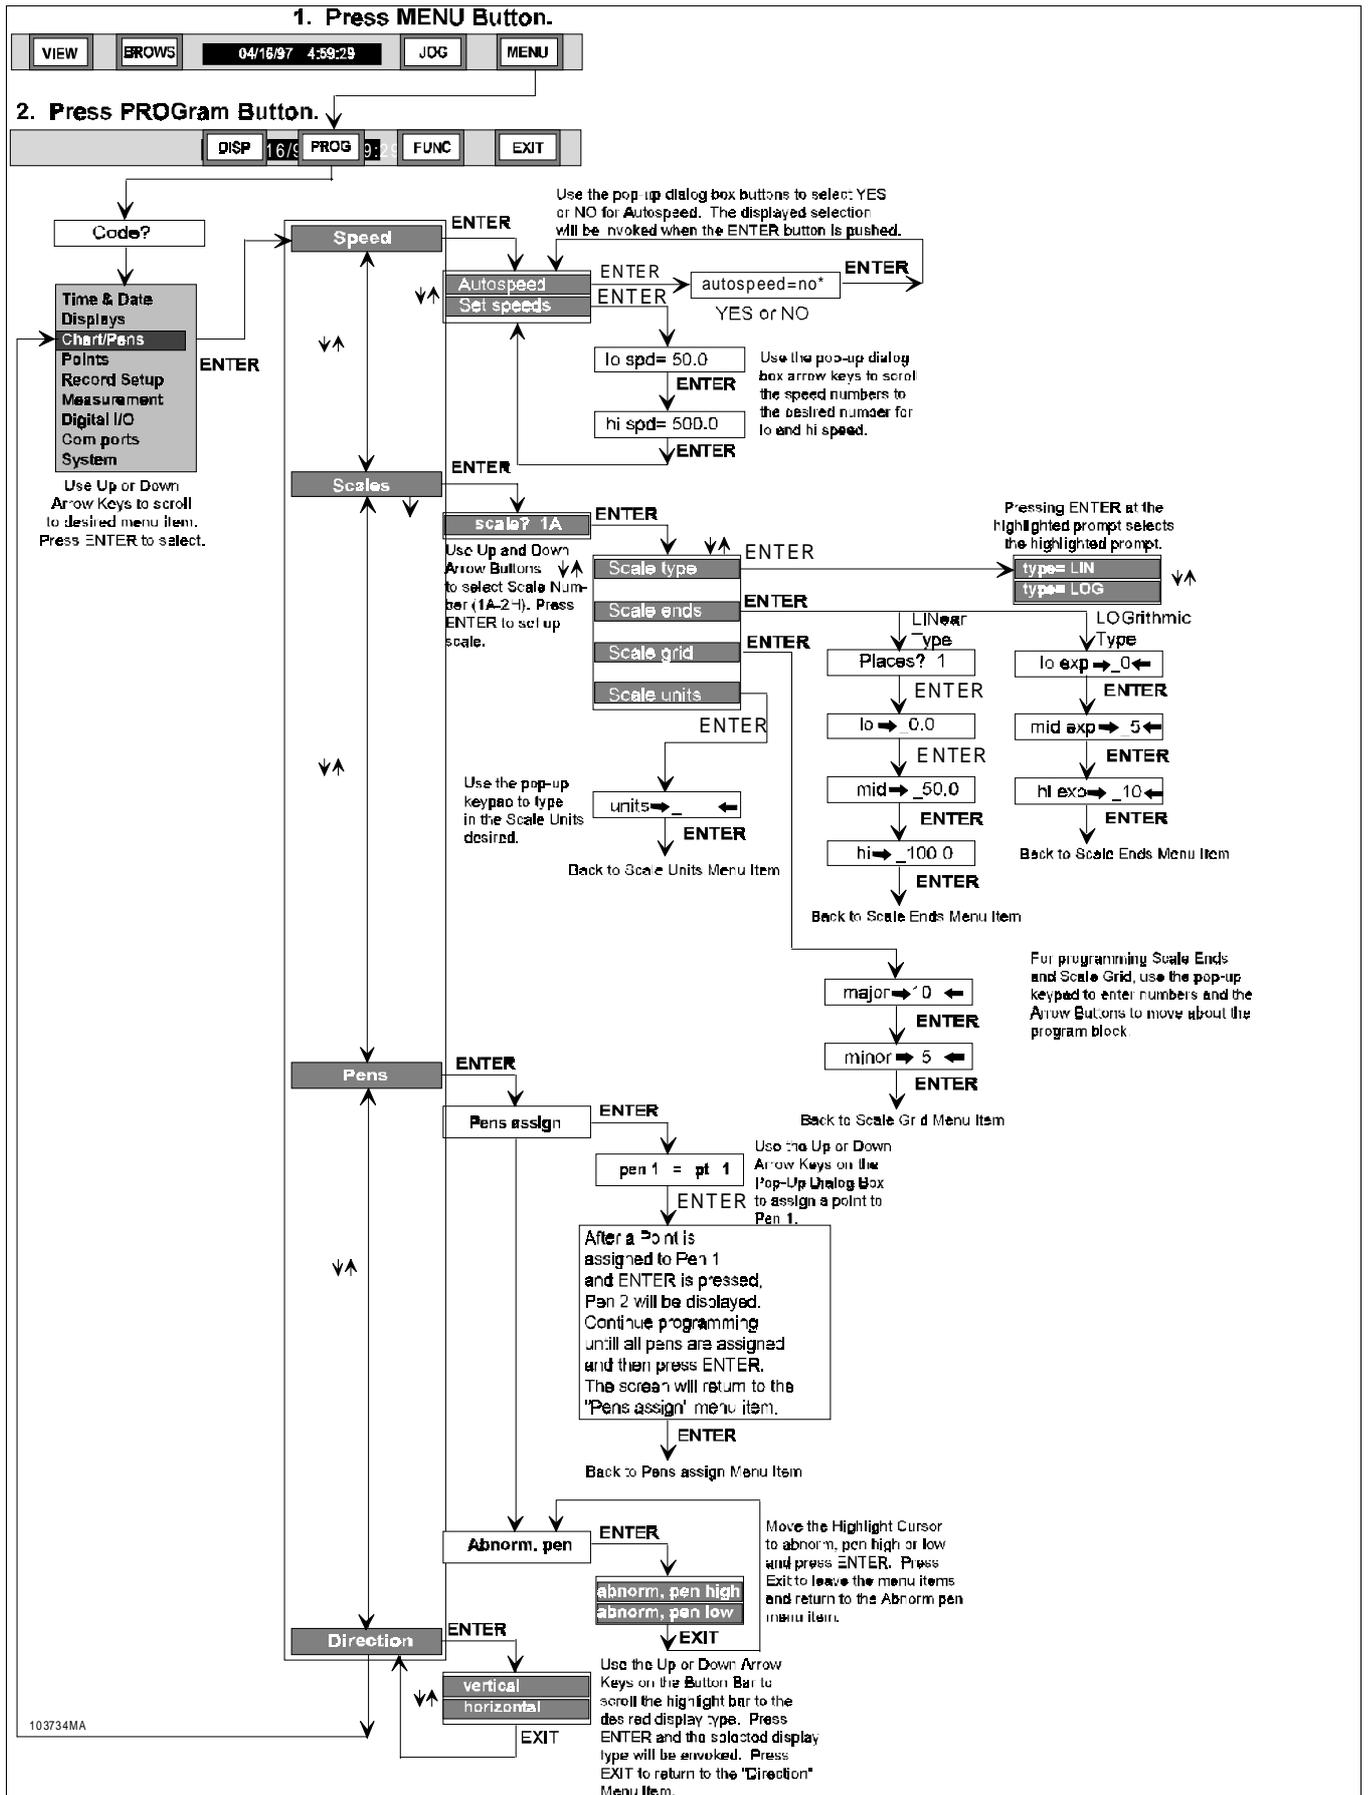

Figure 4-7 Chart/Pens Setup Menu Flow Chart
4.5.1 General. This Programming menu item allows the user to program parameters directly affecting charts or pens. The Chart/Pens programming menu is shown in Figure 4-7. Each programming item shown has further programming options as listed below.
Refer to the following paragraphs and to Figure 4-7, Chart/Pens Setup Menu Flow Chart, for additional details.
A. Programming the Virtual Chart Speeds - The following steps and Figure 4-7 guide you in programming:
C. Programming Scales - Use the following paragraphs and Figures 4-7, 4-8, and 4-9 to program scales into the Recorder:
1. Scale Type - The scale type can be LINEAR or LOG. For linear scales, the point data is interpolated linearly across the defined segments. For log scales, the log 10 of the data is used in the interpolation. The following steps and Figure 4-7 are used to guide the user in programming Scale Type:
The graph can thus be made to amplify data by offsetting the midpoint for example, if the full scale is zero to 10, and low = 0, high = 10 and mid = 8, half the display will show 0 to 8 and the other half will show 8 to 10. Thus the upper half of the display represents only 20% of the chart and will have four times the resolution of the lower half of the display as shown below: The Linear Type of scale asks for the number of decimal places. To program a linear or log scale ends, follow the instructions below and refer to Figure 4-7:
4. Scale Units - A five character engineering units field can be programmed for each scale. Every time a scale is printed on the chart, it is identified in the line above by the scale set and letter and the engineering units. This scale unit along with the Engineering units is also recorded to disk. The same line also identifies the pens trending in the scale with the point number associated to each pen. To program Scale Units, use the following steps and Figure 4-7:
A. Programming Pens Assign- The following steps and Figure 4-7 guide the user in programming Pens Assign:
B. Programming Abnormal, pen - The following steps and Figure 4-7 guide the user in programming Abnormal, pen:
A. Direction Programming - Use the following steps and Figure 4-7 to change the pens trace direction: